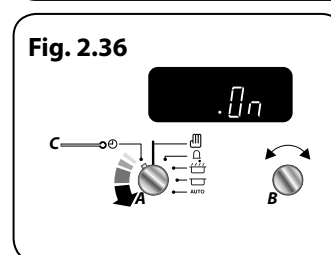

Fig. 2.36
2. Turn the **Timer (A)** knob to the **Clock (C)** setting and hold for approx 8 seconds. The display will show 'ON' (**Fig. 2.36**).